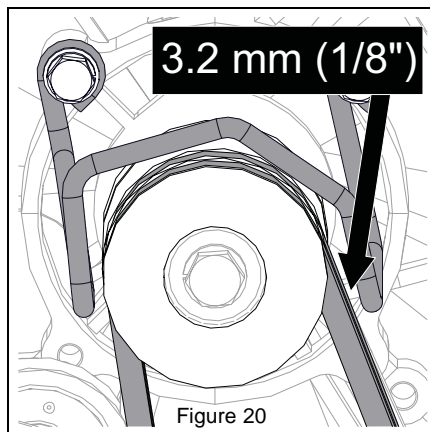

Figure 20
- Engage attachment clutch lever and make sure belt finger located opposite belt idler is less than 3.2 mm (1/8") from belt, but not touching the belt. See Figure 20.